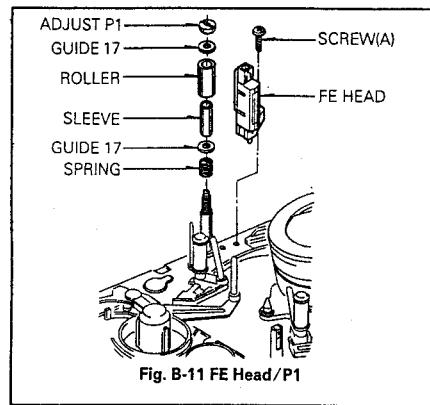

Fig. B-11 FE Head/P1
11. FE(Full Erase) Head Assembly(Fig. B-11)
① Do not touch the Video Head Tip with fingers or tools.
12. P1 Assembly(Fig. B-11)